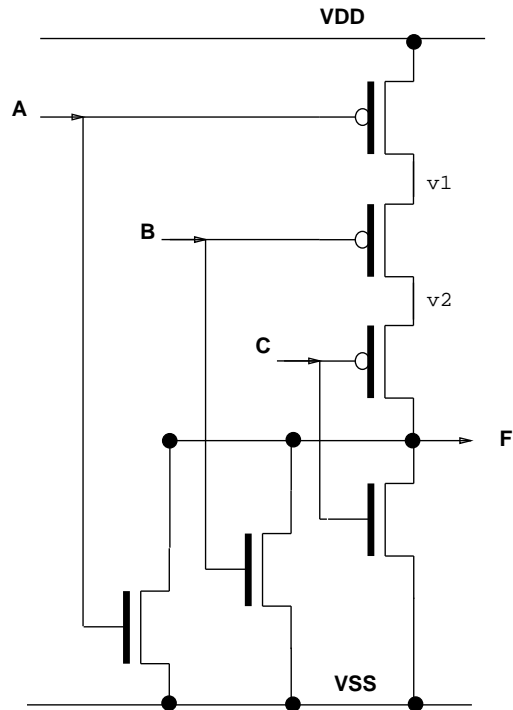

Figure 3.1: The schematic of the 3-input nor circuit.
The purpose of this section is to get you accustomed to circuit design on the 'fishbone'-image using the OCEAN tool suite. We will start by designing the simple 3-input nor which is shown in figure 3.1. Normally you'll import such a simple cell from the library and you don't have to bother so much making wires by hand. It is very illustrative, however, to take you through all design steps using a simple example.
- In figure 3.1 the schematic is already given. Normally you'd have to draw the schematic yourself, or create it using other tools. In this case the schematic of the 3-input nor is very simple: It consists of 3 parallel n-enhancement MOS-transistors (bottom of figure 3.1) and 3 p-enhancement MOS-transistors in series (on top).